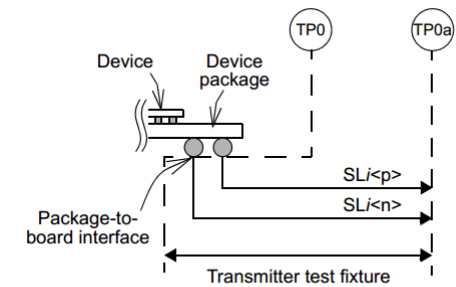

Figure 93-5—Transmitter test fixture and test points
- 120D.2 has definition of compliance points (TP0a and TP5a), which refers to Figure 93-5. **This figure does not include test equipment or AC coupling.**
- In Clause 93: the test system is not shown in Figure 93-5**
- Carried over to C2C Annexes 83D and 120D (which point to Figure 93-5).
- Clause 93 would best be fixed by adding the AC-coupled scope connection in Figure 93-5 (see next slide).
Concept of suggested change in Figure 93-5